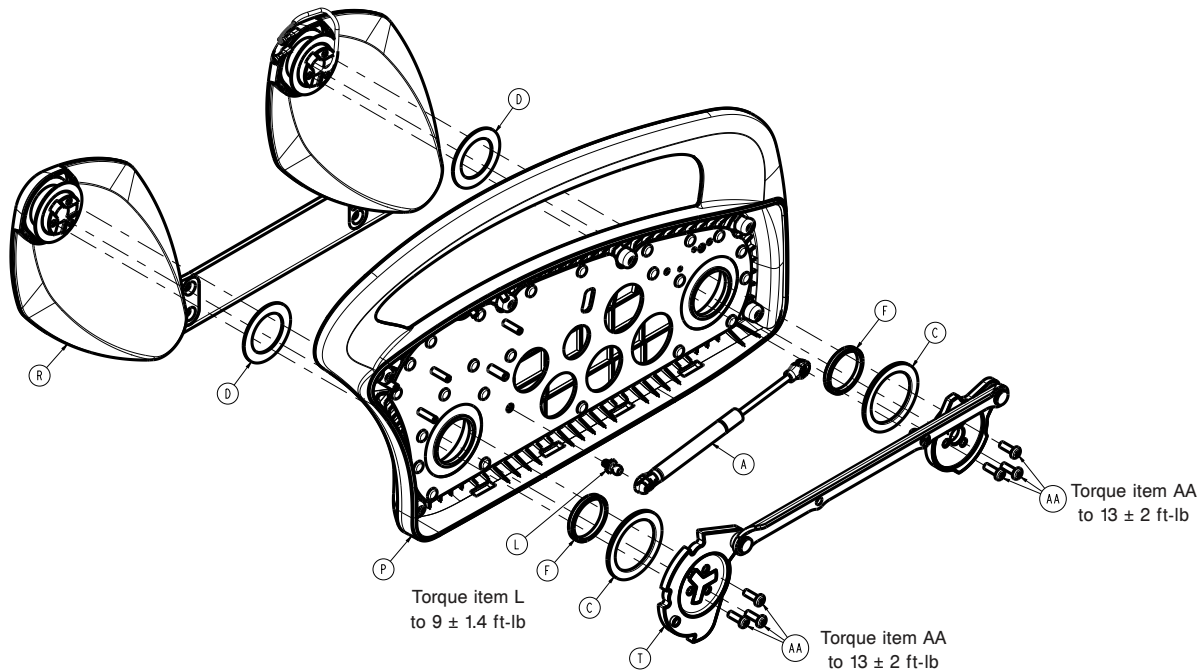

Figure 60 – Replacing the foot siderail hoop
15. Using a ratchet and a T30 Torx driver, remove the six screws (AA) that secure the timing link cams to the siderail arms (Figure 60). Save the screws.
11. Using a ratchet and a T30 Torx driver, remove the six screws (AA) that secure the timing link cams to the siderail arms (Figure 60). Save the screws.
12. Using a small slotted screwdriver, unclip the gas cylinder (A) from the timing link assembly (T) and the siderail hoop frame (P) to remove the gas cylinder (Figure 60).